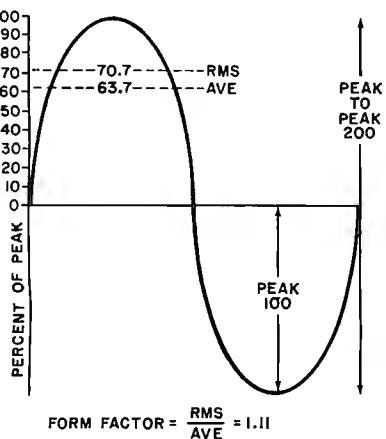

Fig. 5. The various ac values that can be measured by a meter.
**Ac Problems.** Another problem with VOM's concerns ac measurements. In a VOM, the ac voltage is rectified to provide a pulsating dc voltage that can be measured by a dc-only meter movement. Unfortunately, the VOM responds to, or measures, the average value of the ac voltage rather than the rms value in which we are more interested. Since the ratio of the rms value to the average value of a sine wave (its form factor) is known to be a constant 1.11 (Fig. 5), meter manufacturers skirt the problem by calibrating their meter scales to give the rms value of a sine wave. This means, for example, that if 100 volts is applied, the meter's pointer actually registers 63.7 volts but is registering 70.7 volts on the doctored scale. For waveforms other than the sine wave, only an approximate rms value is obtained.